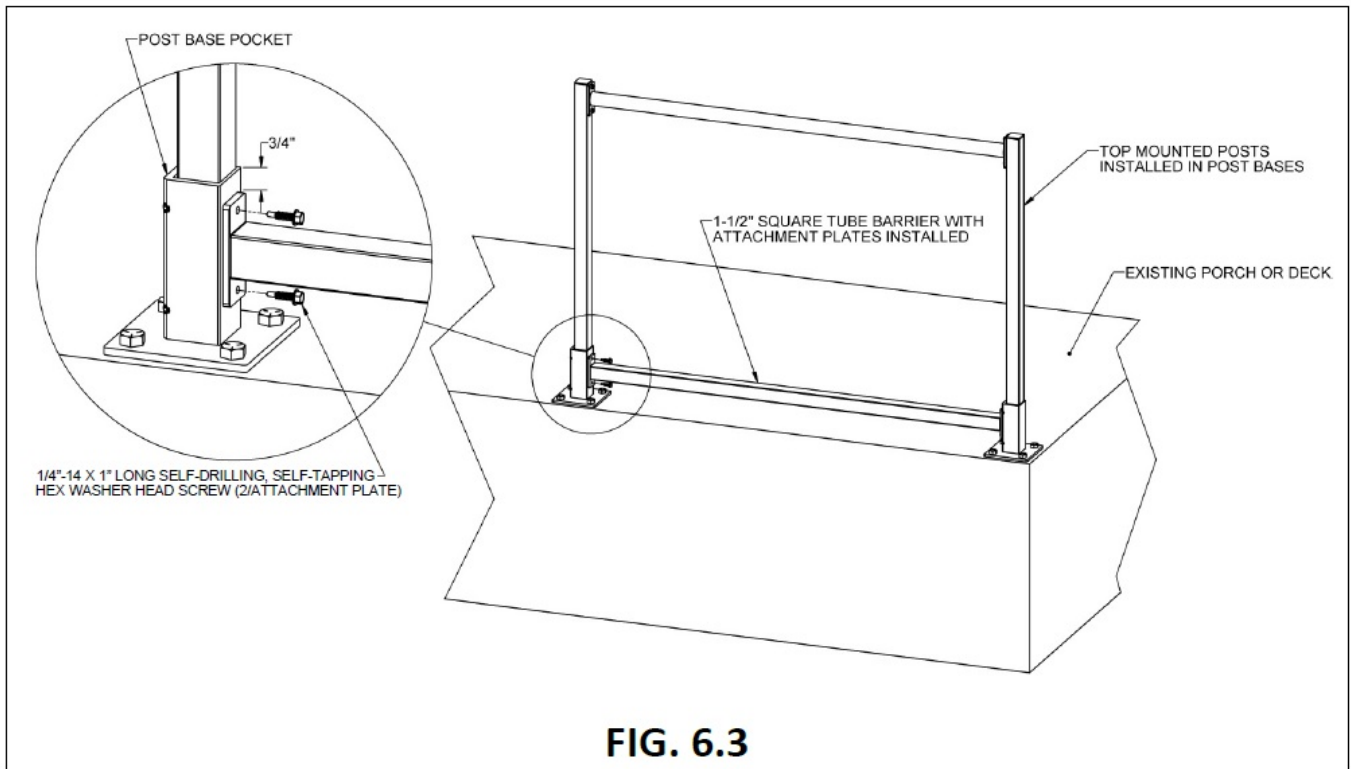

FIG. 6.3
9. Secure the barrier to the post bases using provided 1/4" x 1" long self-drilling, self-tapping hex washer head screws (FIG. 6.3).